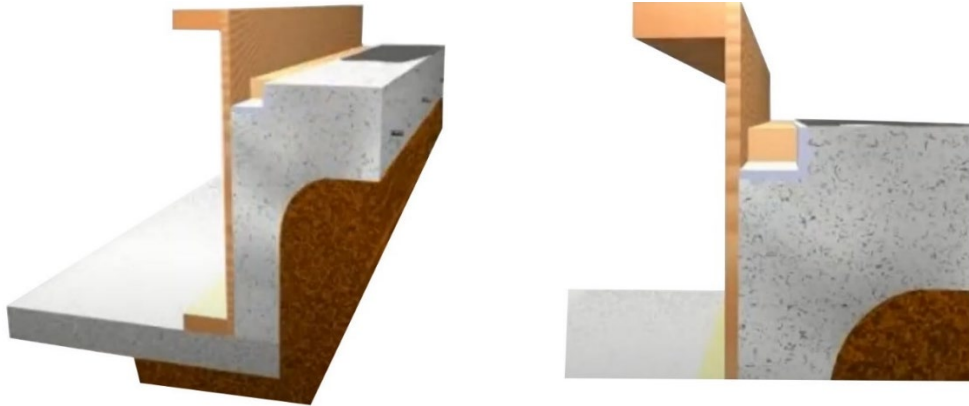

Figure 4
Step 3: Pour concrete as normal. Limited vibration is needed to obtain complete fill out around the locking lugs on the concrete site of the fiberglass rails. *Figure 4*